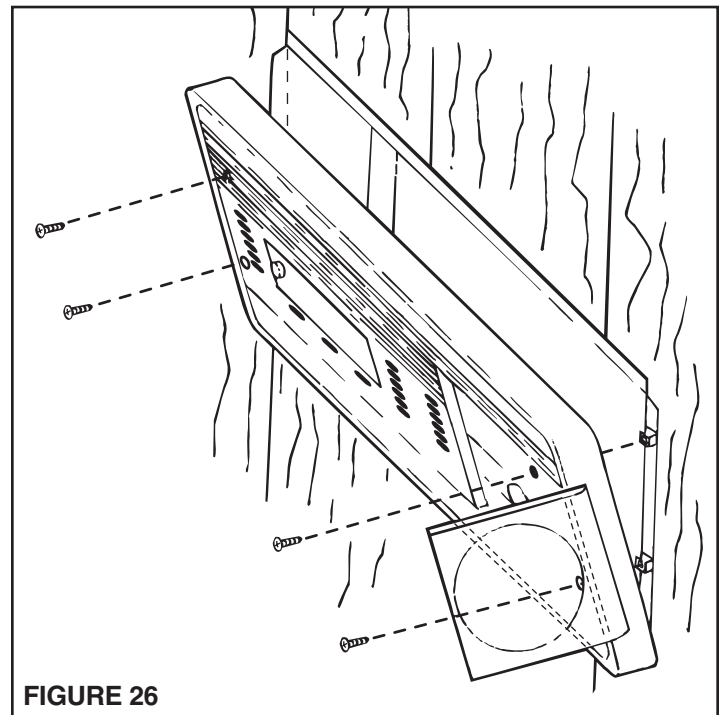

FIGURE 26
1. Refer to Figure 26. Inspect all wiring connections to make sure they are complete and correct.